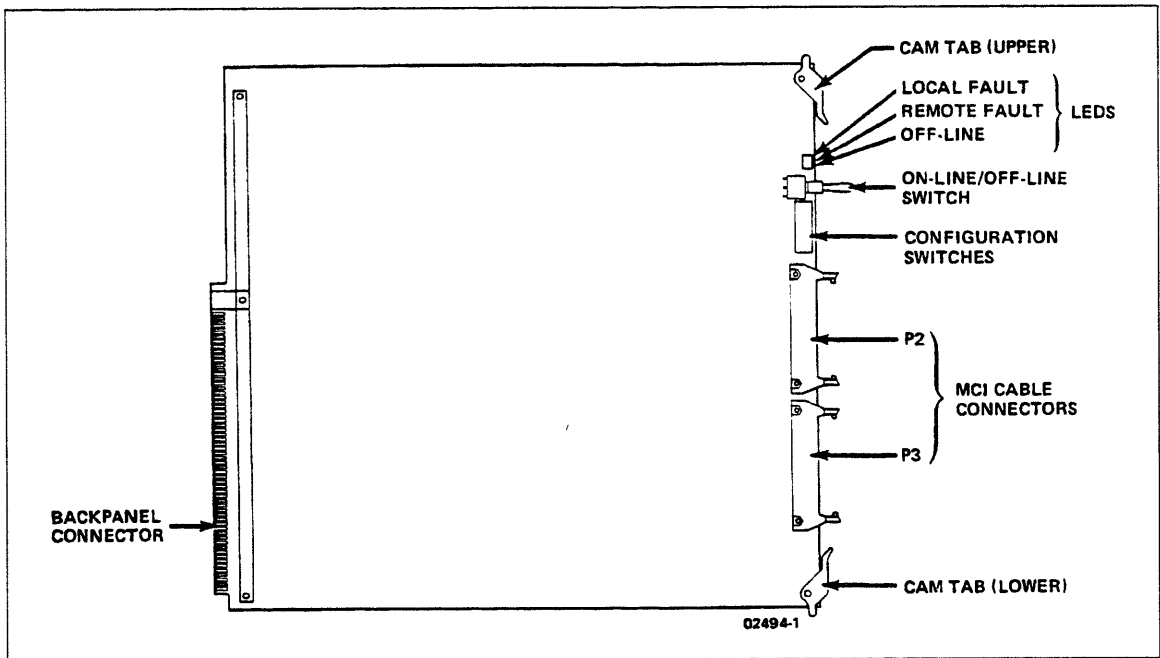

Figure 3-50. MCI Board
2. Unpack MCI board, MCI cable assembly, both channel cables, equipment label, and FCO label (board and cables are shown in figures 3-50 and 3-51).